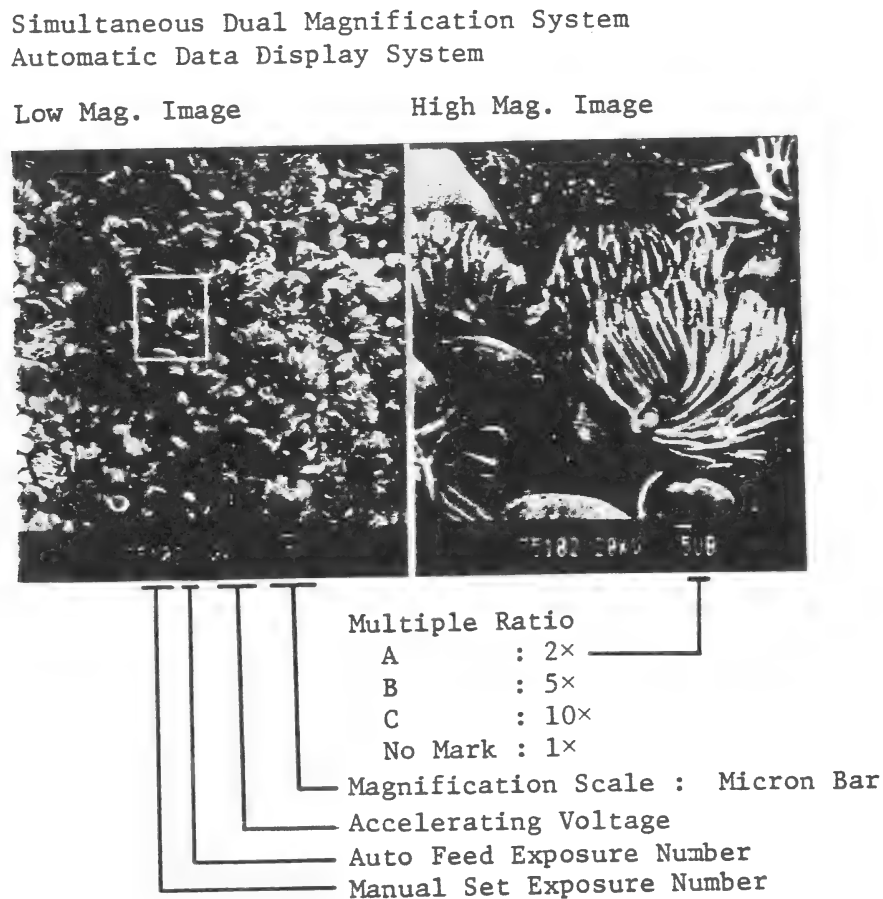

Fig. 5-7 Display Example
A scaling bar having a length proper to the particular magnification is displayed on the CRT screen, and the reading and unit for the bar length are indicated. In Fig. 5-7, for instance, the length of scaling bar is 5 μ .
- (4) When photographing a high magnification image in combination with the Model S-4023 Split Screen/Dual Magnification Unit, the micron display is followed by a character A, B or C, depending upon the setting of the MULTIPLE RATIO selector on the Model S-5003A; 2x, 5x or 10x, respectively. In the example shown in Fig. 5-7, the micron display is followed by B, which means that the MULTIPLE RATIO is 5x, and the actual length of the scaling bar is $5\mu \times 1/5 = 1\mu$.
- (5) The data display mentioned in the above can be erased by switch operation. The data background can be selected by a switch to be either specimen image or block background.
Fig. 5-7 shows an example of display when the Model S-4023 Split Screen/Dual Magnification Unit is combined.
When this switch is set to **BLACK**, the data background turns black as shown in Fig. 5-7. When this switch is set to **IMAGE**, the characters are displayed on the specimen image.